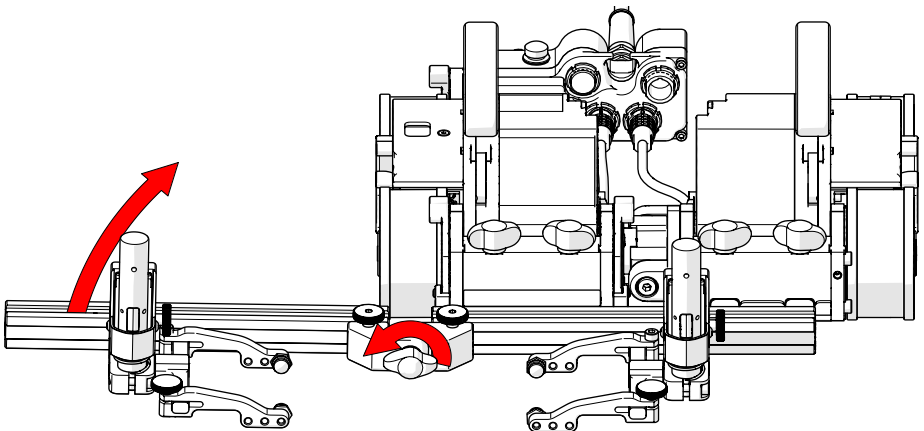

Fig. 271 - Lift frame bar to avoid interference
2. Loosen the pivot wing knob and raise the frame bar to an angle greater than the surface to be scanned (*Fig. 271*). Tighten the pivot wing knob and place crawler on scan surface (see "Placement of Crawler on Inspection Surface" on page 129).